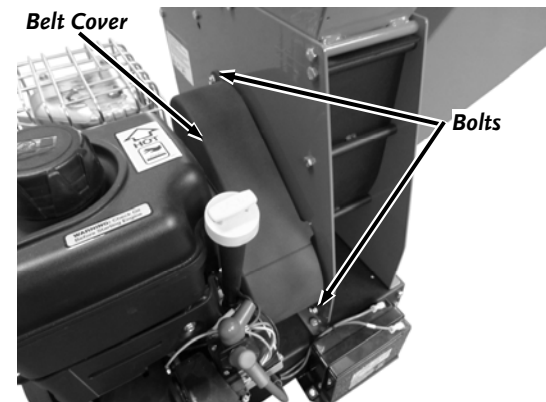

Figure 20
1. Remove the two Bolts and Washers securing the Belt Cover using a 1/2" Wrench (Figure 20). Remove the Belt Cover.